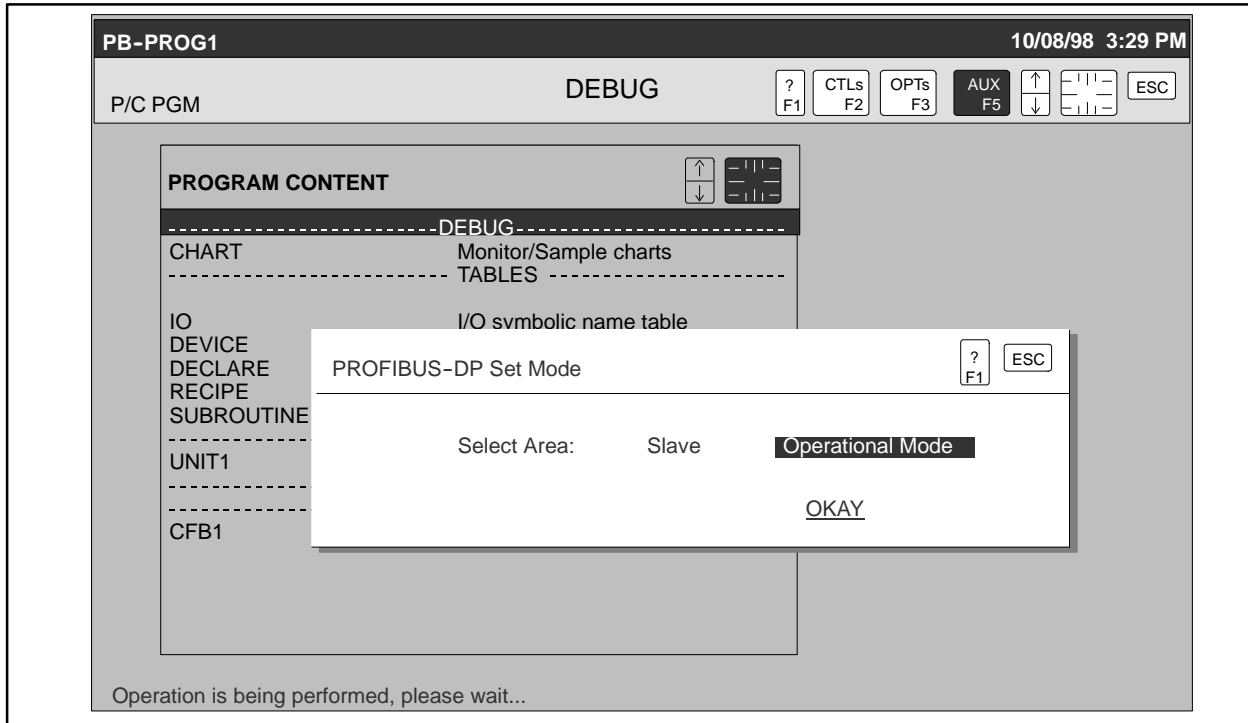

Figure 9-21 Selecting Operational Mode
3. Press **Enter**. The PROFIBUS-DP Set Mode screen appears (Figure 9-21).